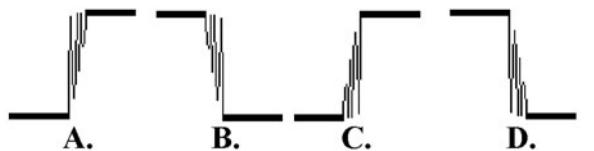

Figure L41-4
- An unclean input has bounce as shown in Figure L41-4. Such a bounce is too fast to be noticed on inexpensive oscilloscopes. It would be impossible to see on Soundcard Scope. But you see the results of the bounce as the 4017 counts more than one step in each push of the plunger.